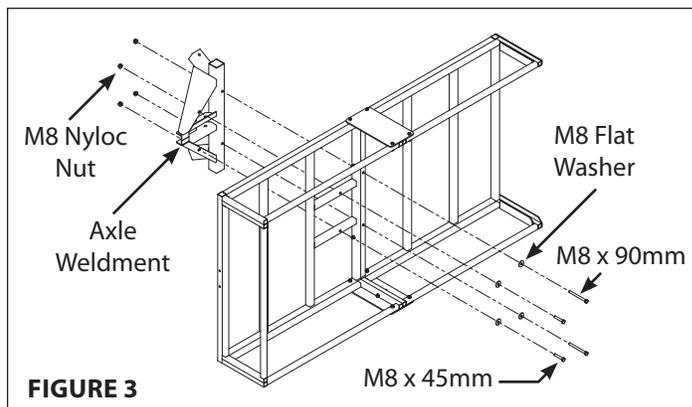

FIGURE 3
3. Turn the basket on its side to attach the axle weldment (24793) to the bottom of the baskets. Using (2) M8 x 90mm bolts, (2) M8 flange nyloc nuts, (2) M8 flat washers, fasten the axle to the rear trailer frame along the seam that joins the baskets. **SEE FIGURE 3.**
4. Join the axle weldment to the front trailer frame using (2) M8 x 45mm bolts, (2) M8 flange nyloc nuts, (2) M8 flat washers. **SEE FIGURE 3.**